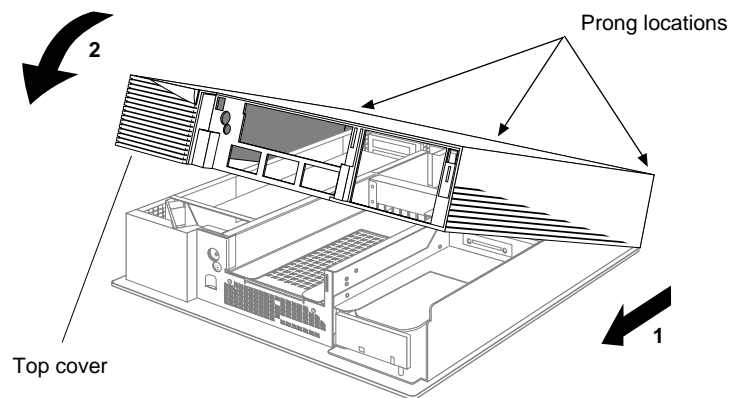

Figure 4-13 Replacing the Top Cover on the Indigo² Chassis
1. Place the back of the cover into the grooves in the back of the chassis, as shown in Figure 4-13.